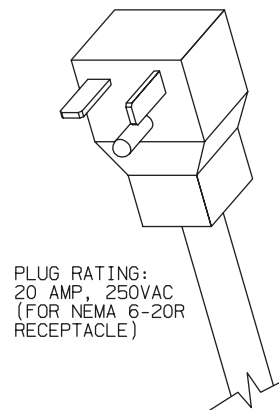

Figure 2-1
2. This freezer requires a protected 20 amp 230 volt circuit. Connect the freezer to a circuit separate from any other electrical equipment. The power cord on this freezer connects to a NEMA 6-20R receptacle. See Figure 2-1.